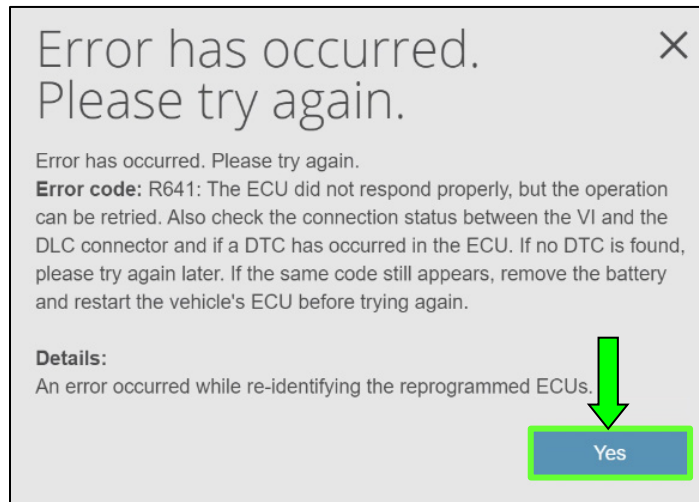

Figure 26
28. If the Error code R641 appears (Figure 26), Select **Yes** and continue to step 29.